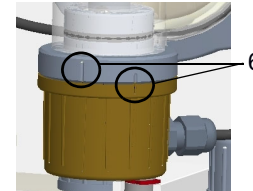
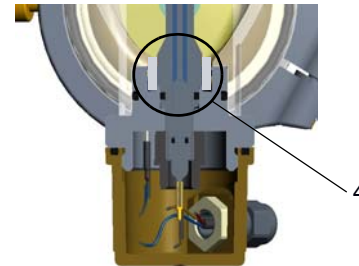

Fig. 14 Section, cap
Fig. 15 Section, installation position of felt ring
- 1 Carefully unscrew and remove the knurled nut (1).
- 2 Unscrew the cap (5) by turning it to the left as far as the marker (see Abb. 14). Take care not to disconnect the signal cable!
- 4 Remove the felt ring (4) between electrolyte storage tank and electrode (see Abb. 15).
- 5 Reinstall the complete electrode mount (3) in the cell body (4). To do this, carefully insert the complete electrode mount (2) from below.
- 6 Screw the cap (5) on again by turning it to the right as far as the marker (see Abb. 14).